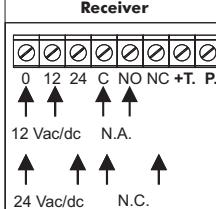

Fig. 7
- 7 - Make the electrical connections and power the receiver (Fig. 7) and the transmitter (Fig. 10);
Connect the output contact to the terminals C and NO for a normally open contact or C and NC for a normally closed contact (Fig. 7).